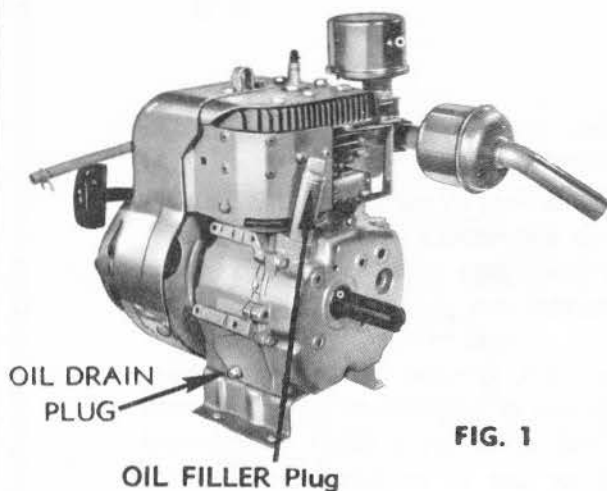

FIG. 1
- 1 Change oil in engine crankcase after first 2 hours of operation. Unscrew oil drain plug located on end of engine base. (See Fig. 1)
- 2 Replace oil drain plug and refill engine crankcase with oil as per instructions in Figure 1.
- 3 Thereafter check oil level often, before each using, at each eight hours of operation and add oil if necessary to bring up to proper level. (See Fig. 1)